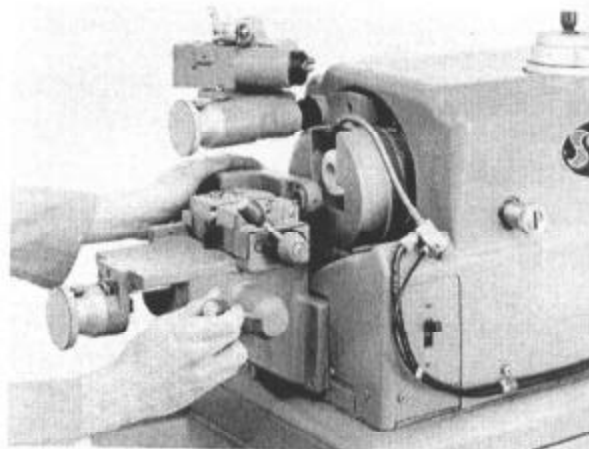

Figure 3.
4. To sharpen drills, retract the main slide with the rapid advance lever, swing the radial locator down to its positive stop, advance the slide as far as it will go, thereby locking the radial locator in its correct locating position. (See Figure 3.)